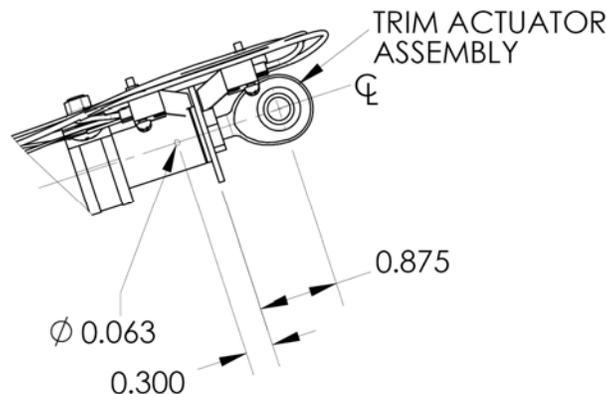

Figure 27-56 Trim Actuator Installation
8. If installing a new trim actuator, drill hole as shown in Figure 27-56 and drive safety pin in to keep column from moving out of place if jam nut loosens.